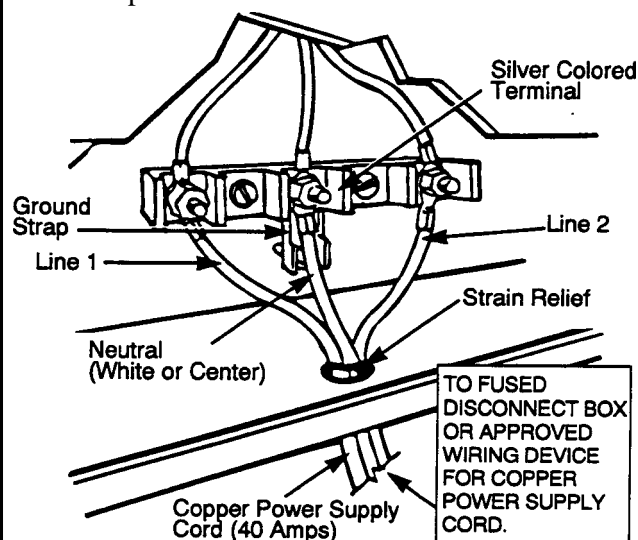

FIGURE 1 (continued next page)
C. Connect the neutral wire of the copper power supply cord to the center silver colored terminal of the terminal block and connect the outer wires to the outer terminals. See Figure 1. Ring type terminals must be used on copper power supply cord wires.